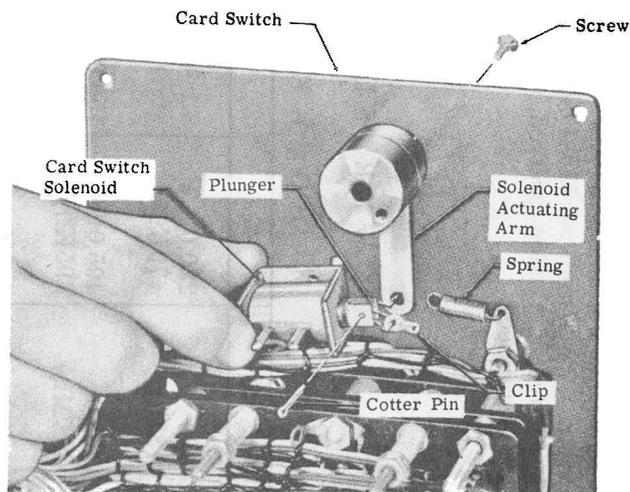

Figure 20. Replacing Card Switch Solenoid
6.22 Replacement of Card Switch Solenoid. (See Figure 20). Unsolder leads to terminals on solenoid. Disengage spring from clip on plunger and remove cotter pin and clip. Remove screws from face of panel and disengage solenoid from solenoid actuating arm. Install new solenoid and reconnect associated parts in the reverse order of removal.